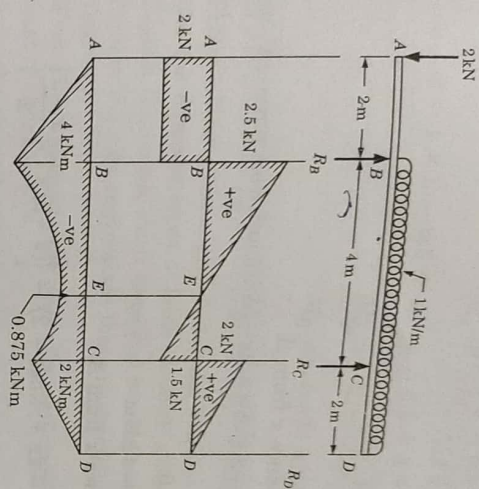

Fig. 25.21
**Example 25.7.** A overhanging beam is loaded and supported as shown in Fig. 25.21. Draw the shear force and bending moment diagrams.
S.F. diagram is as shown in Fig. 25.21.
B.M. diagram is as shown in Fig. 25.21.